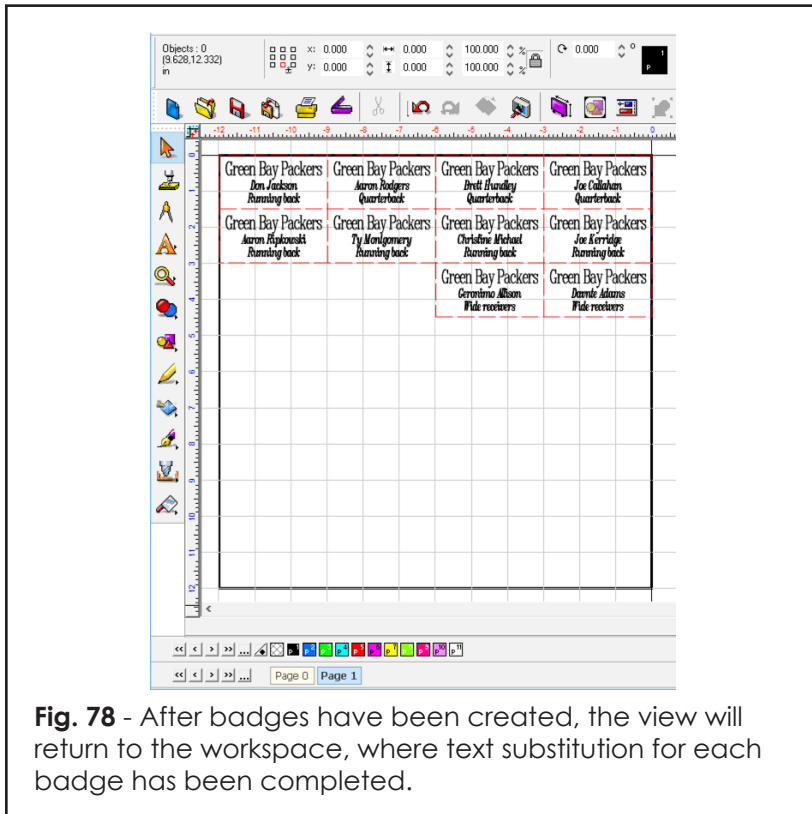

Fig. 78 - After badges have been created, the view will return to the workspace, where text substitution for each badge has been completed.
20. When the badges have been completed, the workspace will display the first page of badges (Fig. 78).